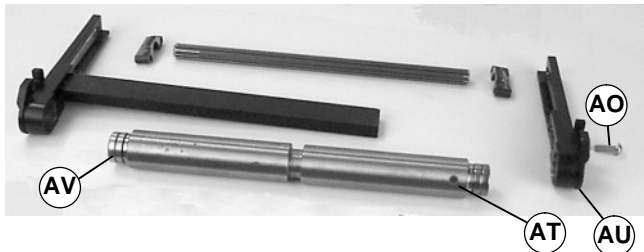

Figure 34
4. Locate magnet (AT of Figure 34). Remove screw (AO).
4. Remove tail assembly (AS).
5. Locate magnet (AT of Figure 34). Remove screw (AO).
6. Remove headplate (AU).
7. Remove pulley (AV).